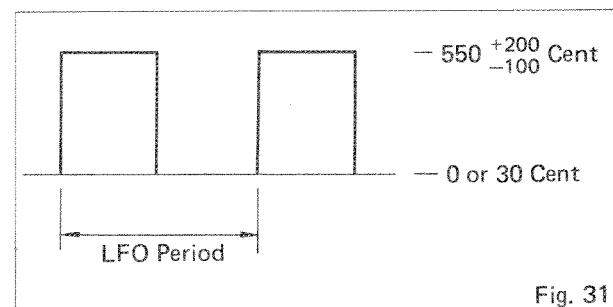

Fig. 31
3. Set $\sim / \nearrow / \sqcap$ / W-VCA and WHEEL-VCO (hereinafter referred to as W-VCO) to $\sqcap$, OFF, and ON, respectively. At that time, waveforms as shown in Figure 31 should be obtained. Set W-VCO and RESONANCE of the VCF section to OFF and H, respectively. And bring CUT OFF FREQUENCY switch down to a position where a waveform indicated in Figure 5 is obtained. After that, set RESONANCE to L.